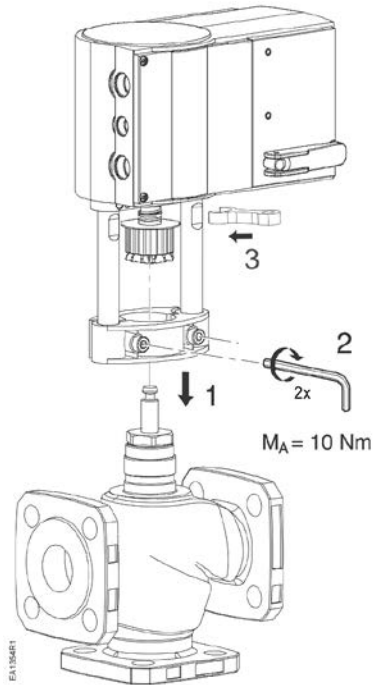

Figure 6.
1. Place the actuator on the valve. See Figure 6, Step 1.
2. Using a 6 mm hex wrench, tighten the two hex head cap screws to secure the actuator to the valve body. See Figure 6, Step 2.
3. Insert the anti-rotation Device on the actuator arm as indicated. Figure 6, Step 3.